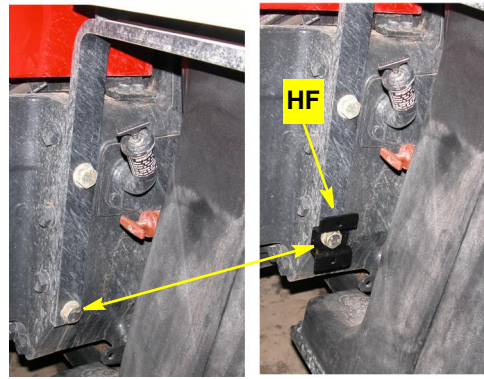

Figure 3a (L and R): Fitting the mounting bracket for the hydraulic block
- a. The hydraulic steering block will be mounted to the machine frame on the left side, below the cab, and beside the fuel tank. Locate and remove the lower of the two bolts securing the step mounting bracket to the machine frame (Figure 3a L - left side).
Using this bolt, secure the hydraulic block mounting bracket **HF** to the frame (Figure 3a R - right side).